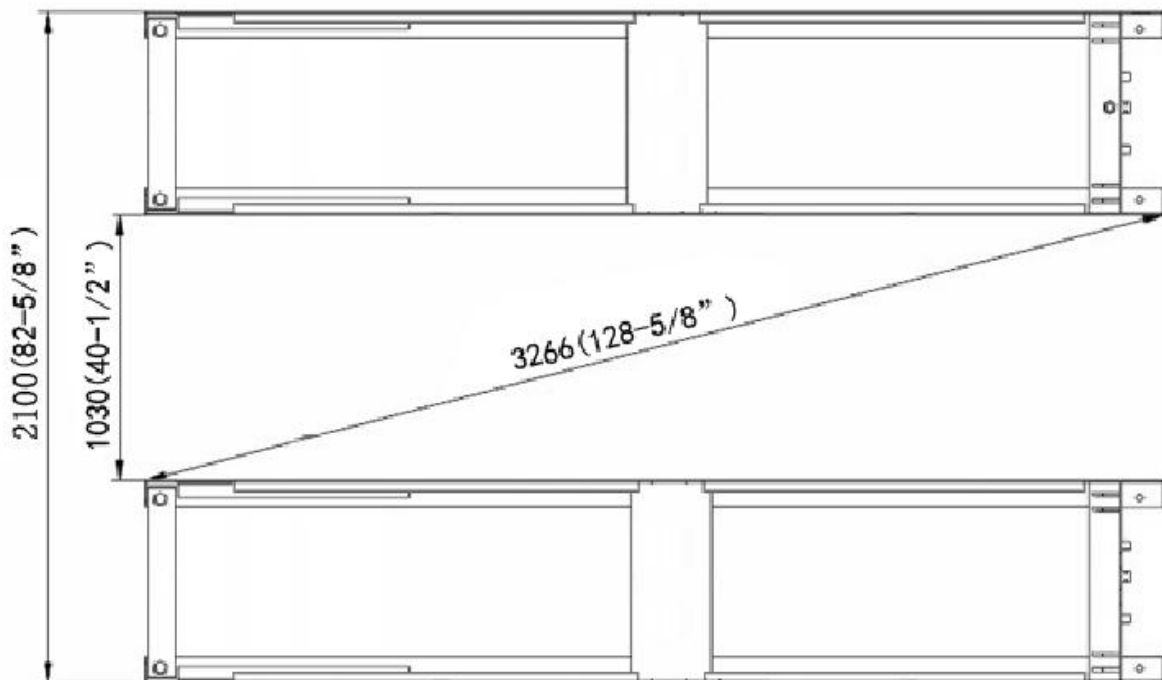

Fig. 3
- 1.1 Installation dimension for DX-4000A (See Fig. 3).